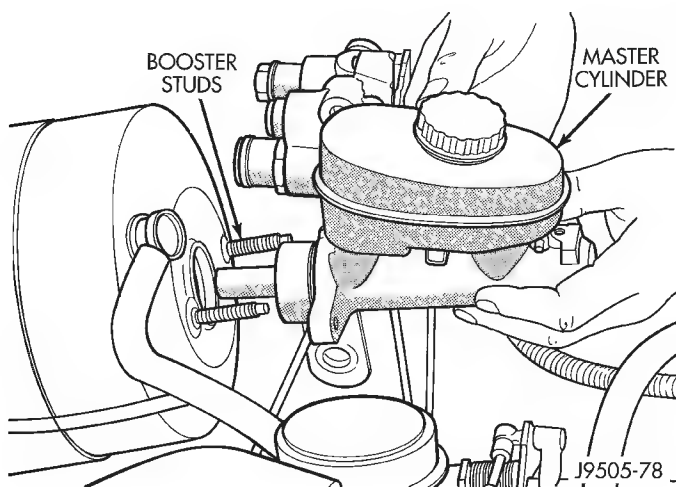

Fig. 24 Master Cylinder Installation
(5) If new master cylinder is being installed, **remove plastic protective sleeve from piston shank before installation.**
(6) Position master cylinder on booster studs (Fig. 24). Then install and tighten cylinder attaching nuts to 25 N·m (220 in. lbs.) torque.